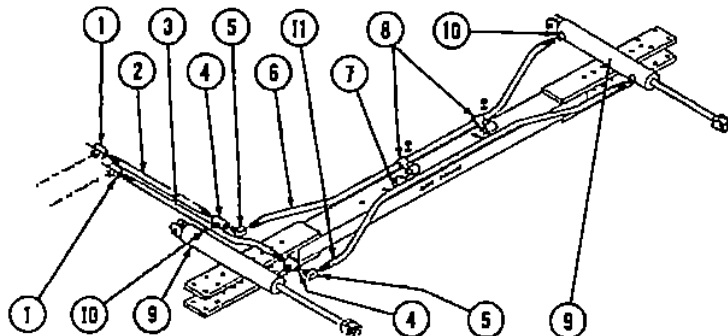

FIG. 17 — HOSE ASSEMBLY
6. Connect the flow restrictor (Item 10) to the butt end of the hydraulic cylinder as shown by the arrows in Fig. 17. Connect the hydraulic tees (Item 4) to the four ports in the front hydraulic cylinders. Connect the two hydraulic hoses (17" long) (Item 2) to the inside hydraulic tee of the cylinder. Connect the two hydraulic hoses (35" long) (Item 3) to the outside tees of the hydraulic cylinder. Connect the two (17" long) hoses together with the all female hydraulic tee (Item 1). Connect the two (35" long) hydraulic hoses together with the all female hydraulic tee. (Item 1). Connect the flow restrictor (Item 10) to the port closest to the butt end of the rear hydraulic cylinders. Connect the 90° hydraulic street ell (Item 5) to the hydraulic tee on the front hydraulic cylinders. Connect the (83" long) hydraulic hose (Item 6) to the butt end of the front hydraulic cylinder. Connect the other end of the 83" long hydraulic hose to the butt end of the rear hydraulic cylinder. Connect the (73½" long) hydraulic hose (Item 11) to the rod end of the hydraulic cylinder. Connect the other end of the hose to the rod end of the rear hydraulic cylinder. Connect the hydraulic hose (Items 6 and 11) to the side frame with equal slack between front and rear with the hose clamps (Item 8). Tighten clamp down to secure hose.
6. Connect the flow restrictor (Item 10) to the butt end of the hydraulic cylinder as shown by the arrows in Fig. 17. Connect the hydraulic tees (Item 4) to the four ports in the front hydraulic cylinders. Connect the two hydraulic hoses (40" long) (Item 2) to the inside hydraulic tee of the cylinder. Connect the two hydraulic hoses (59" long) (Item 3) to the outside tees of the hydraulic cylinder. Connect the two (40" long) hoses together with the all female hydraulic tee (Item 1). Connect the two (59" long) hydraulic hoses together with the all female hydraulic tee. (Item 1). Connect the flow restrictor (Item 10) to the port closest to the butt end of the rear hydraulic cylinders. Connect the 90° hydraulic street ell (Item 5) to the hydraulic tee on the front hydraulic cylinders. Connect the (92" long) hydraulic hose (Item 6) to the butt end of the front hydraulic cylinder. Connect the other end of the 92" long hydraulic hose to the butt end of the rear hydraulic cylinder. Connect the (81½" long) hydraulic hose (Item 6) to the rod end of the hydraulic cylinder. Connect the other end of the hose to the rod end of the rear hydraulic cylinder. Connect the hydraulic hose (Item 6) to the side frame with equal slack between front and rear with the hose clamps (Item 8). Tighten clamp down to secure hose.